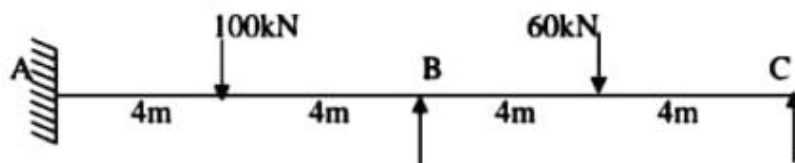

Fig.6
8. Analyse the continuous beam shown in Fig.6 by stiffness method, support B sinks by $300/EI$ and support C sinks by $200/EI$.